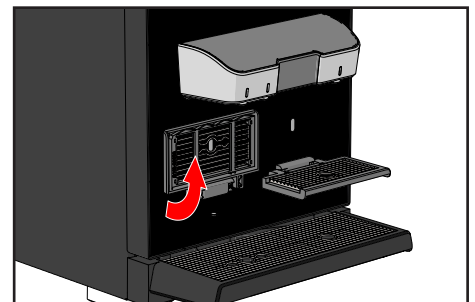

Figure 27.
1. The machine has jug sensors. When the cup tray is folded up (Figure 27) the jug icon appears at the available products.